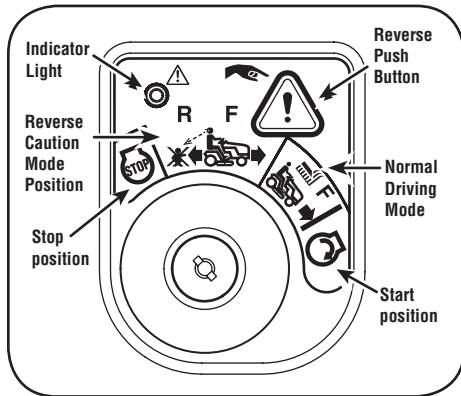

Figure 3-4
2. Turn the key from the NORMAL DRIVING MODE (Green) position to the REVERSE CAUTION MODE (Yellow) position of the ignition switch module. See Figure 3-4.
3. Depress the REVERSE PUSH BUTTON (Orange, Triangular Button) at the top, right corner of the ignition switch module. The red indicator light at the top, left corner of the ignition switch module will be ON while activated. See Figure 3-4.